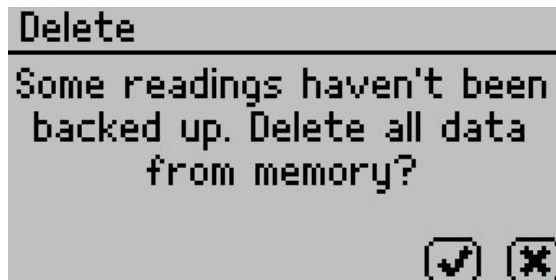

Figure 46 Delete option backup reminder dialog
- **Delete.** Select this option to delete all data currently stored in the instrument. Readings cannot be deleted individually. If the information has not been backed up, a reminder will appear (Figure 46).